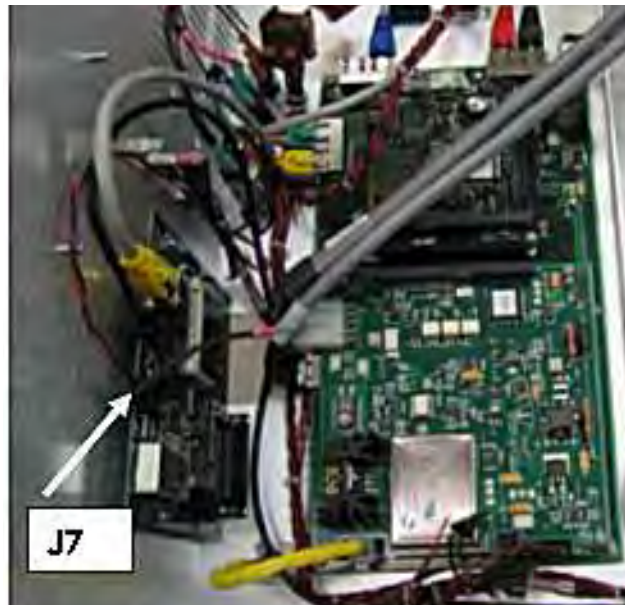
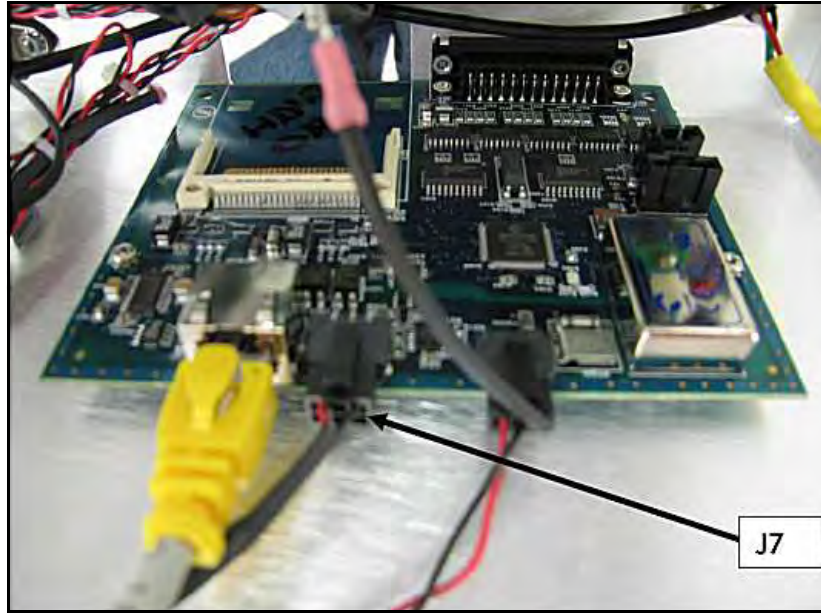

Figure B-19 J7 Connector and Valve
Figure B-20 J7 Connector on Discrete I/O Board
8. Install the valve control cable to the valve and route it to the discrete I/O board J7 connector (Figure B-19 and Figure B-20).